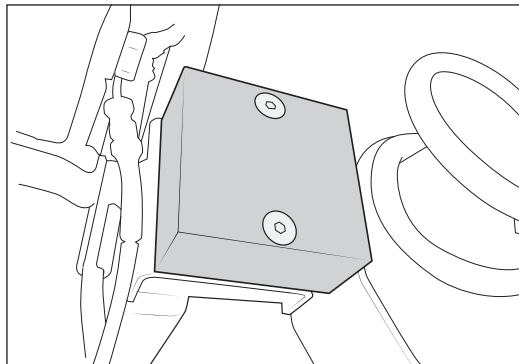

Figure 21
15. Install rear lower bumpstop spacers onto axle pads. Feed countersunk M10 bolts through spacers and existing holes in axle pads. Install flange nuts to bottom side of axle pads. Torque until there's only slight deformation of material at top of holes in spacer blocks (Fig 21).